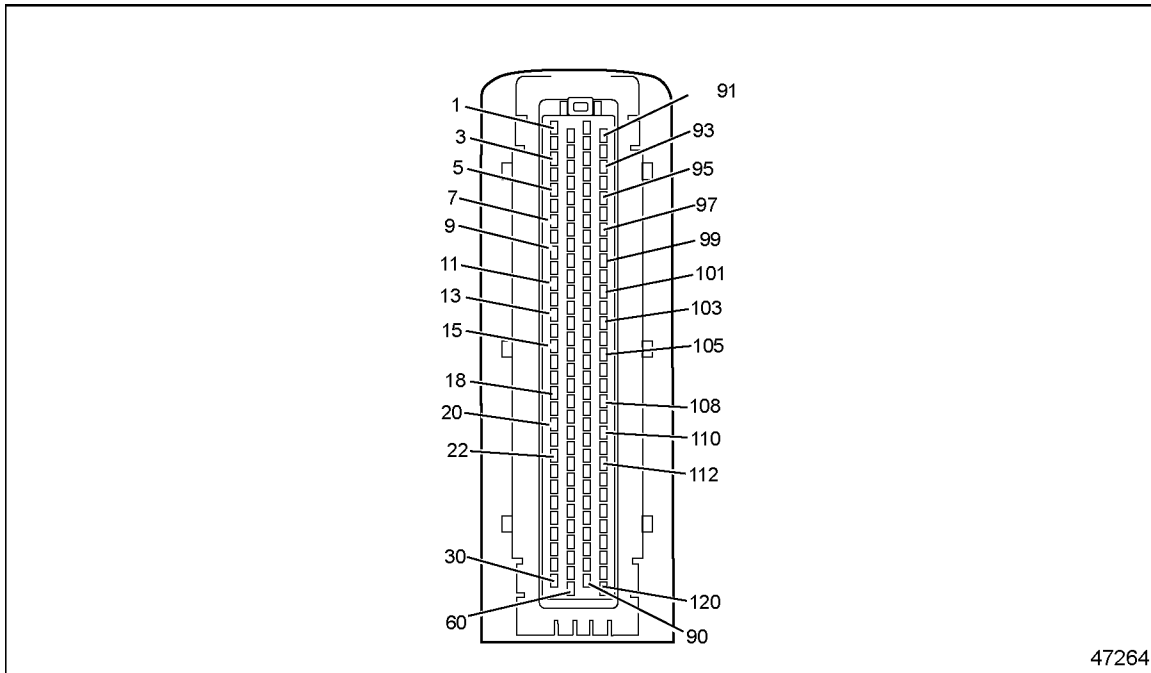

Figure 13-2 MCM 120-pin Connector
- [a] If the voltage is between 2.75 and 3.25 volts, repair the open circuit between pin 1 of the SFT Sensor harness connector and pin 55 of the 120-pin MCM connector. See Figure 13-2. Refer to section 13.1.1.1.
- [b] If the voltage is less than 2.75 volts, repair the open circuit between pin 2 of the SFT Sensor harness connector and pin 77 of the 120-pin MCM connector. See Figure 13-2. Refer to section 13.1.1.1.